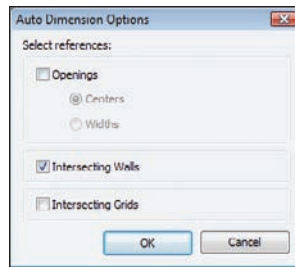

FIGURE 5.3 The Auto Dimension Options dialog
7. In the Auto Dimensions Options dialog, select Intersecting Walls. Do not select any other item (see Figure 5.3), and then click OK.